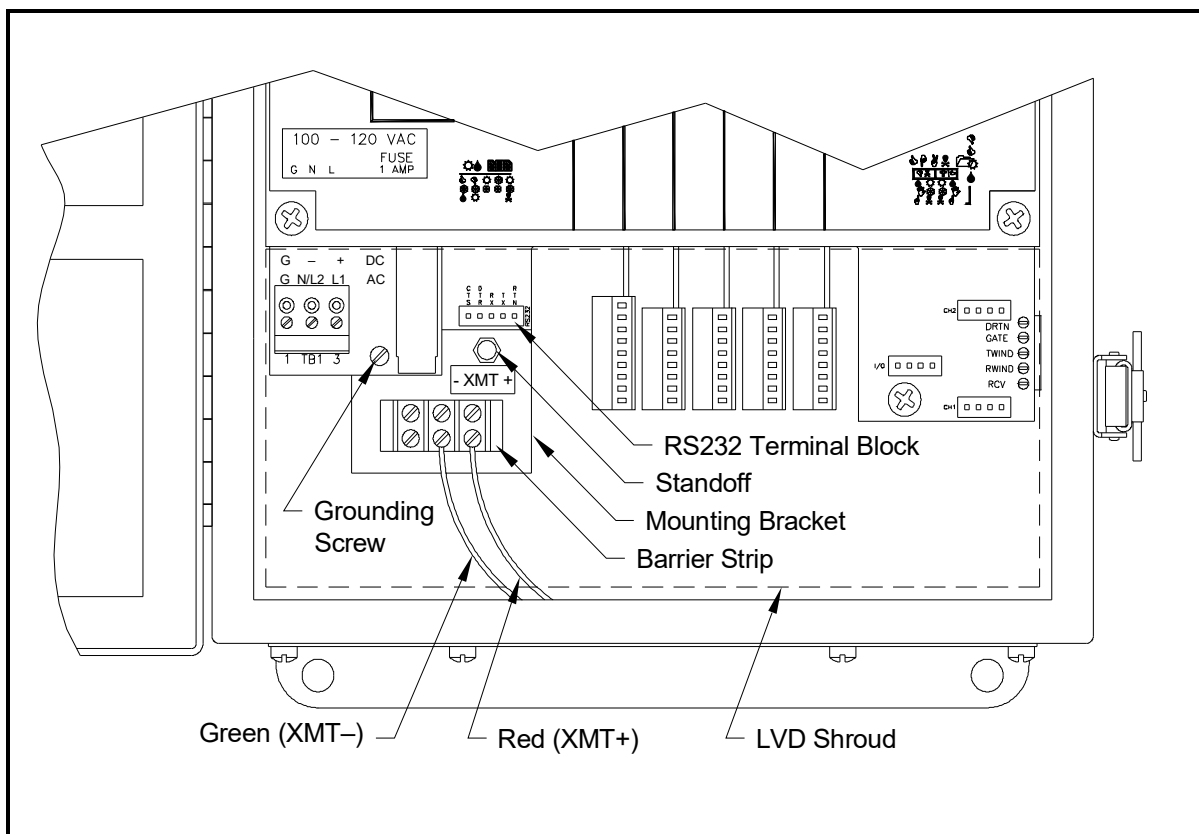

Figure 8: Interface Converter Mounting
A special bracket containing the serial interface converter and a three-terminal barrier strip is mounted inside the Model DF868, just below the RS232 terminal block (see Figure 8). The standard **RS232** terminal block is wired to the input of the serial interface converter, and the RS485 output of the serial interface converter is wired to the barrier strip.
Standard factory wiring of the RS485 serial interface is configured for point-to-point wiring. That is, a single Model DF868 may be wired directly to a single personal computer. To connect the RS485 serial interface, refer to Figure 8 on page 3 and complete the following steps:
3. Remove the serial interface converter *mounting bracket* by removing the standoff located below the **RS232** terminal block and the grounding screw just to its left (see Figure 8 on page 3).